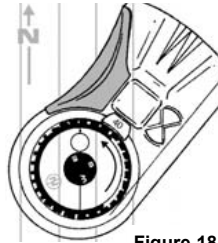

Figure 18
6. Rotate **azimuth ring** until **blue** orienting circle points to the map's **true** north. (Fig 18)